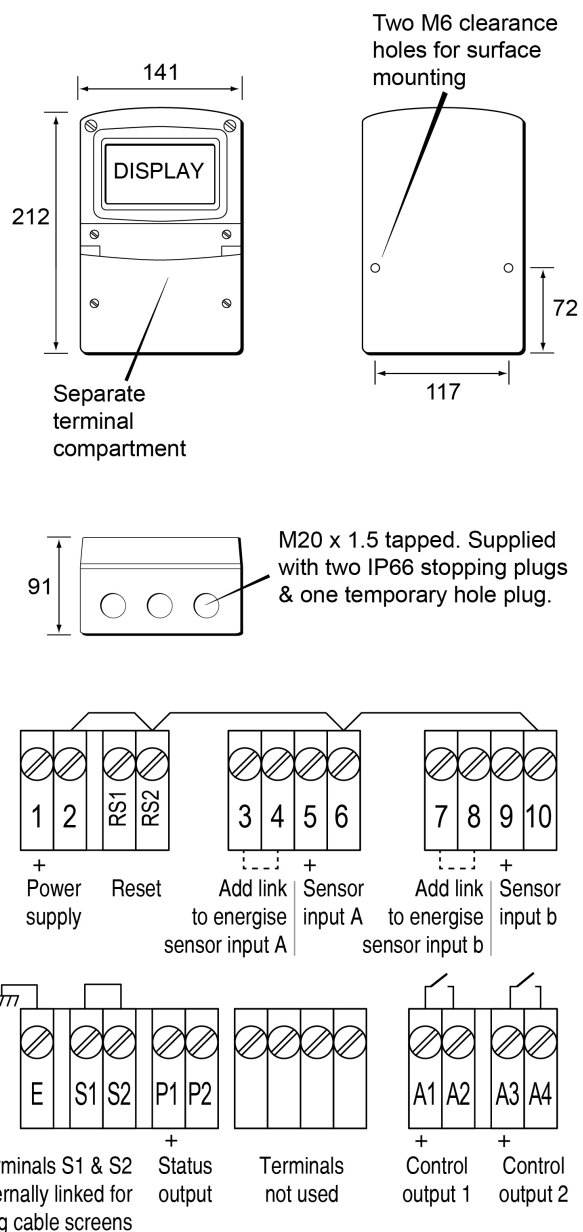

Fig A4.2 Dimensions and terminal connections
- d. Connect the field wiring to the terminals as shown in Fig A4.2.